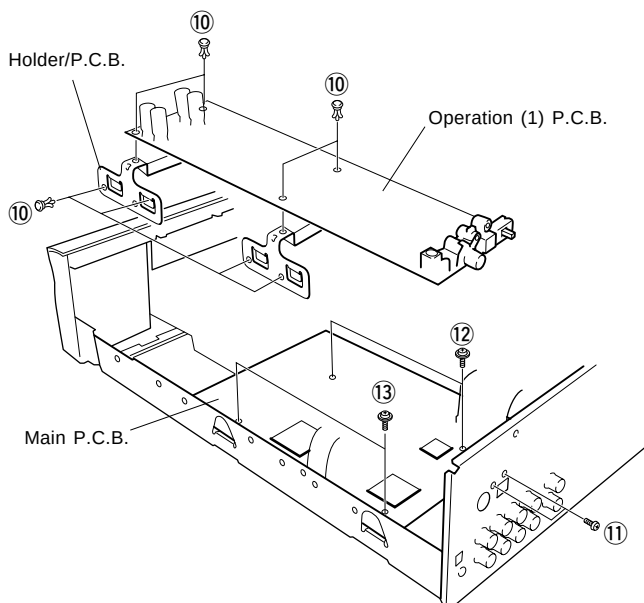

Fig. 13
- e. Remove 8 plastic rivets (⑩) and then remove the Holder/P.C.B. (Fig. 13)
- f. Remove 2 screws (⑪) and then remove the Operation (1) P.C.B. (Fig. 13)
- g. Remove 2 screws (⑫) and 2 screws (⑬) and then remove the Main P.C.B. (Fig. 13)